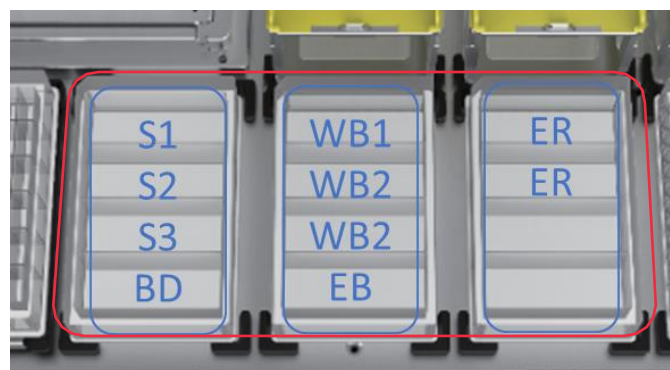

Figure 3. Location each reagent in the 4-Column Reagent Reservoirs
- 3) Place the Reagent Reservoirs (x3) in the specified location on the AmMag™ Quatro 1100 deck (as shown in Figure 3).